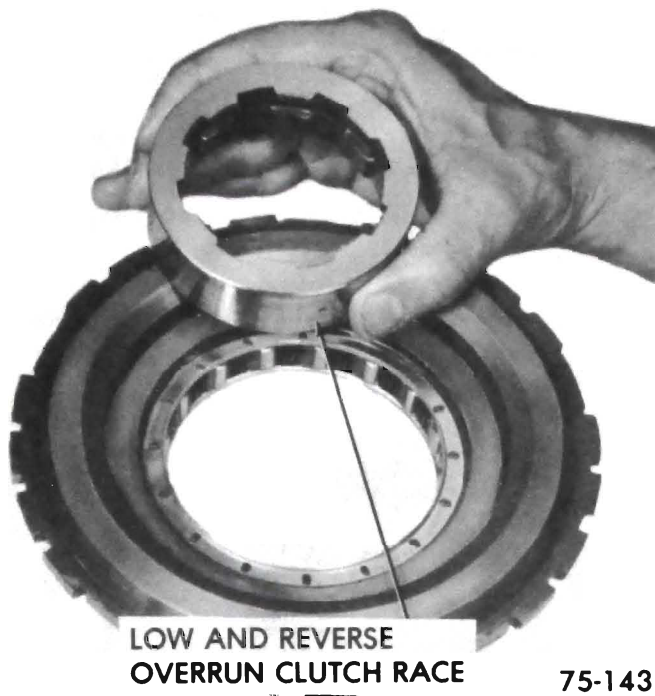

Figure 75-209
2. Remove low and reverse overrun clutch inner race. See Figure 75-209.